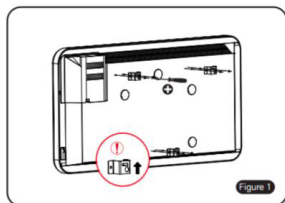

Figure 1
1. Place the product horizontally, use screws to fix the three wall mountings on the back of the body as shown in (Figure 1).